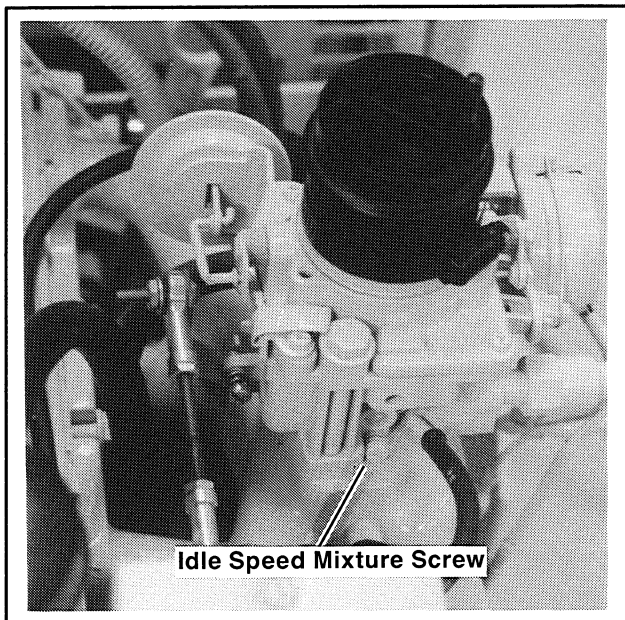

Figure 3-8. Idle Speed Mixture Adjustment
1. With ENGINE STOPPED, turn idle speed mixture screw in (clockwise) until it seats lightly. DO NOT FORCE! Turn idle speed mixture screw out 1-3/4 turns. See Figure 3-8.